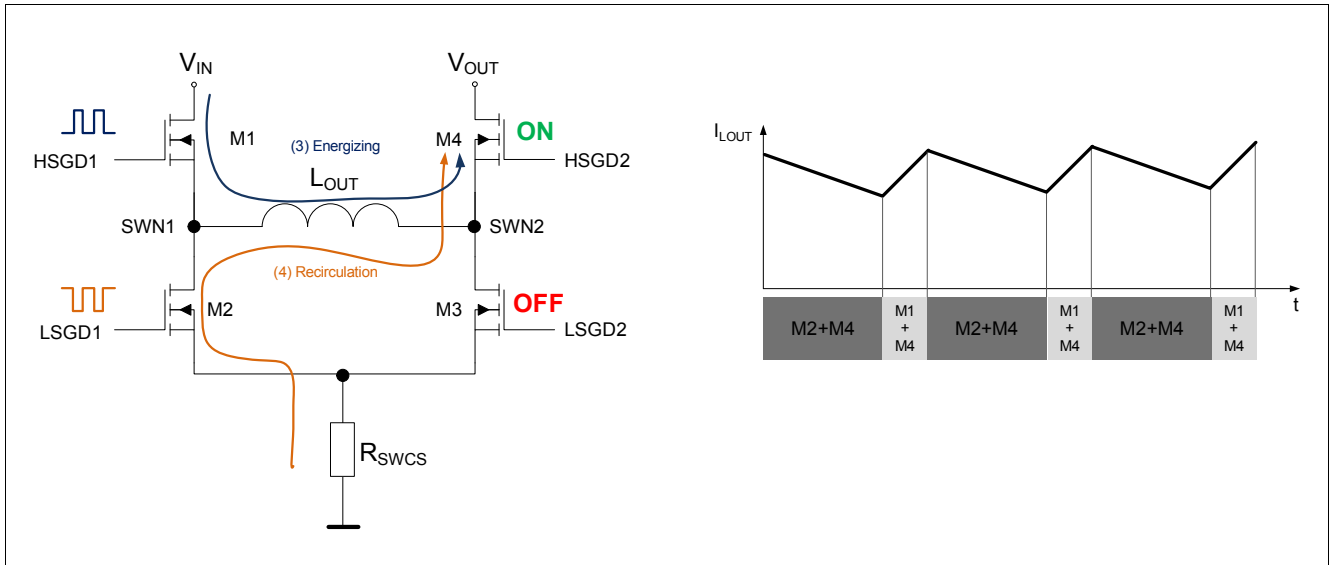

Figure 12 4 switches H-Bridge architecture in BUCK mode
- Switches M1 and M2 alternate, behaving like a typical synchronous BUCK Regulator (see Figure 12)